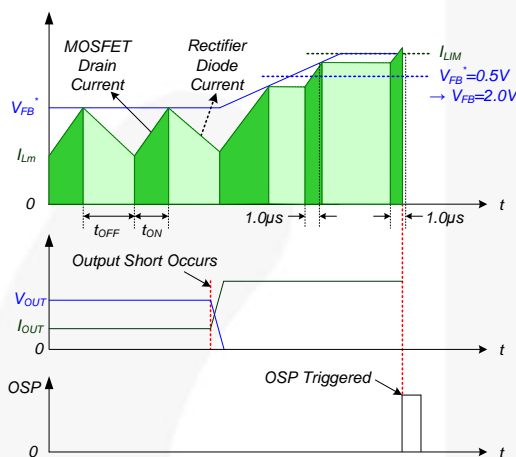

Figure 23. Output-Short Protection
**4.3. Output-Short Protection (OSP):** If the output is shorted, steep current with extremely high di/dt can flow through the SenseFET during the minimum turn-on time. Such a steep current creates high-voltage stress on the drain of the SenseFET when turned off. To protect the device from this abnormal condition, OSP is included. It is comprised of detecting  $V_{FB}$  and SenseFET turn-on time. When the  $V_{FB}$  is higher than 2.0 V and the SenseFET turn-on time is lower than 1.0  $\mu$ s, the FSL117MRIN recognizes this condition as an abnormal error and shuts down PWM switching until  $V_{CC}$  reaches  $V_{START}$  again. An abnormal condition output short is shown in Figure 23.